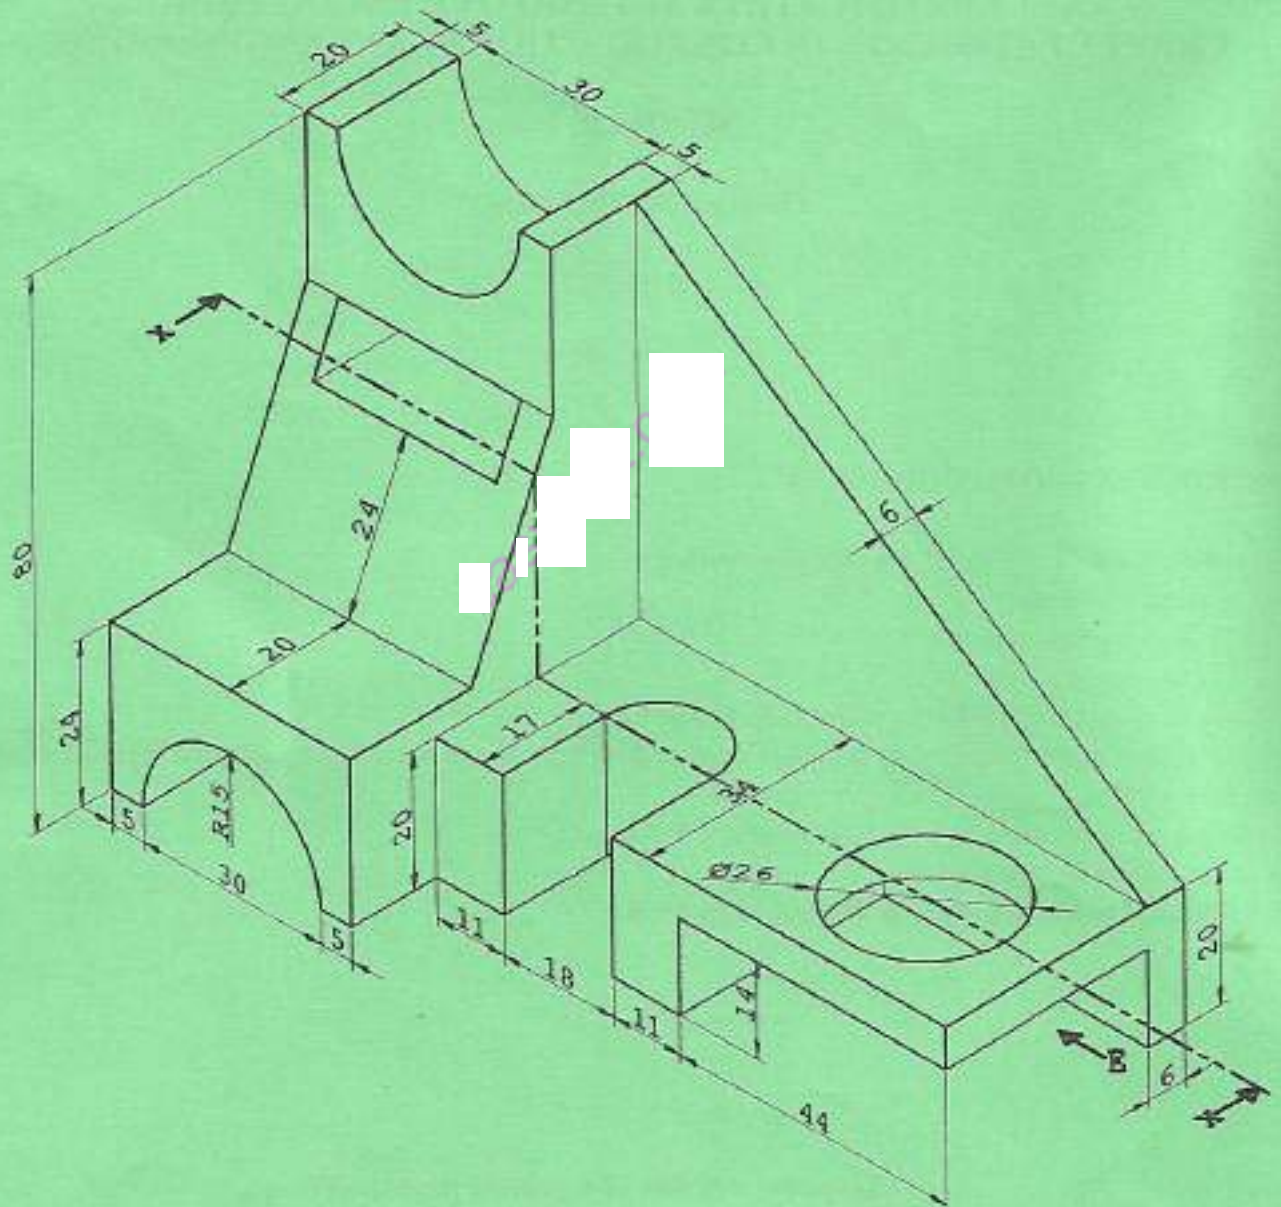

Fig. 1
1. Figure 1 shows a pictorial view of a machine block. Draw the following views in first angle projection.